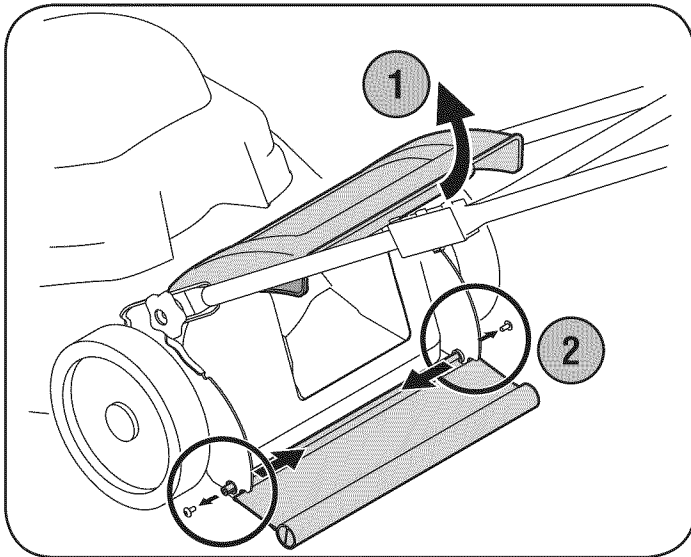

Figure 14
2. Press shield in on either side to remove from hole. See Figure 14.